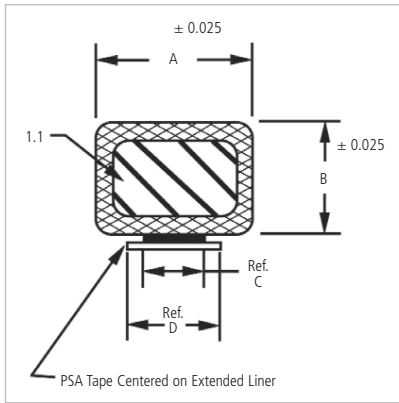
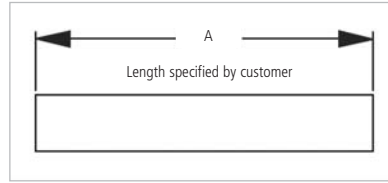

FIGURE 2. CUT-TO-LENGTH
FIGURE 3. BONDED ASSEMBLY
3. Custom gasket assemblies: All sizes are offered cut to a specific length, ready for installation as shown in Figure 2, or as a bonded assembly as shown in Figure 3. Submit dimensions and quantity requirements to our sales department for price and delivery.